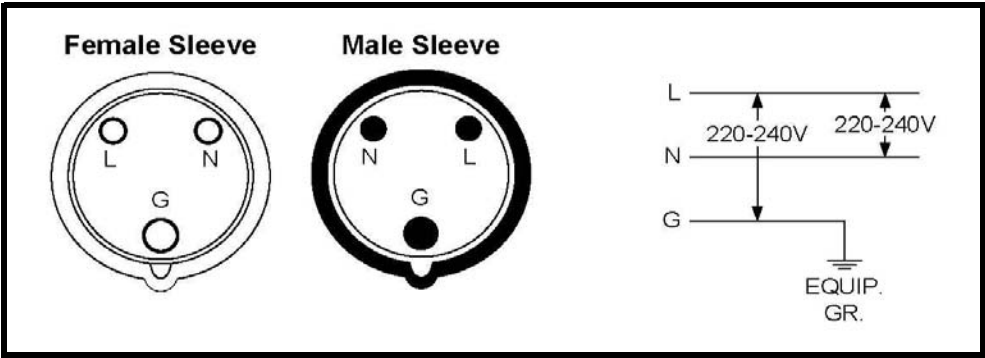

Figure 7-2 European power Standard Receptacle
- Power Cable (p/n 40K9613) - European Power Standard. IEC 309 P+N+G (2.5m) - 63A / 220-240V Single Phase. See Figure 7-2